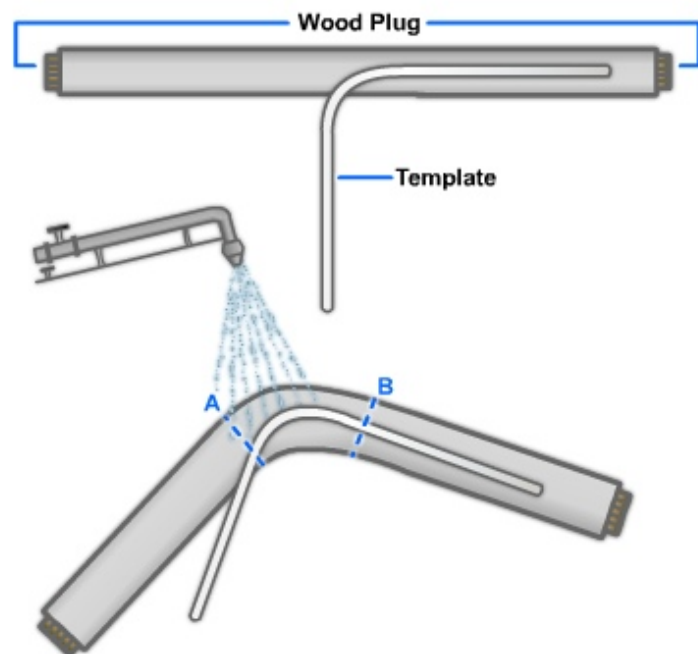

Figure 2-41 — Heating and bending pipe to conform to a wire template.
6. Mark the bend area of the pipe with chalk or soapstone, and heat it to an even red heat along the distance indicated from A to B in *Figure 2-41*.